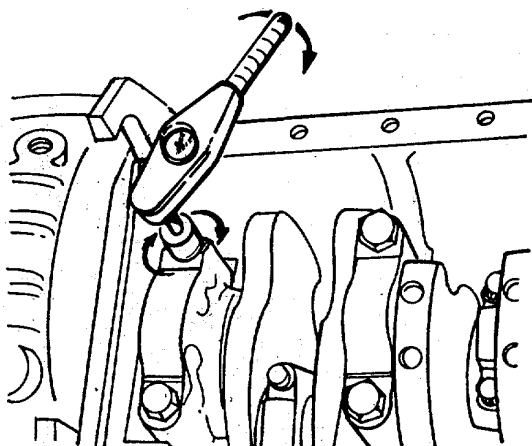

FIGURE 4-76. Torque Steps.
- i. Torque capscrews to the values as shown in the following steps. (FIGURE 4-76)